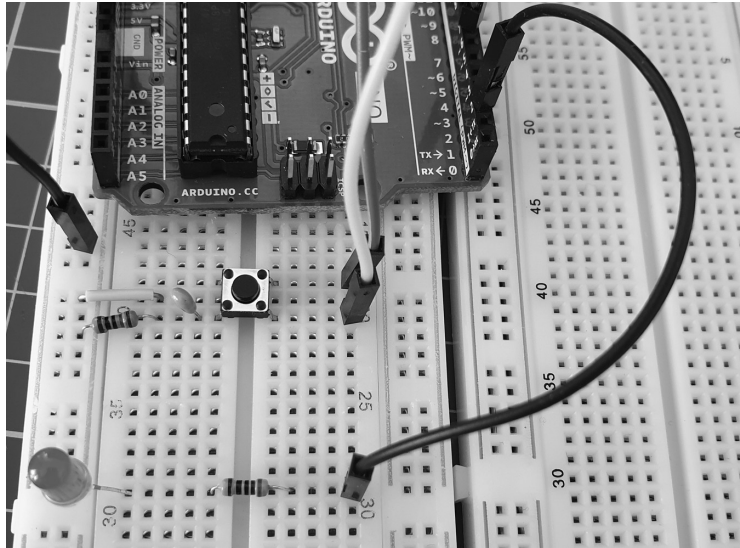

Figure 4-25: Connecting the LED branch to the Arduino
6. Connect a wire from the right side of the 560 Ω resistor to Arduino digital pin 3, as shown in Figure 4-25.